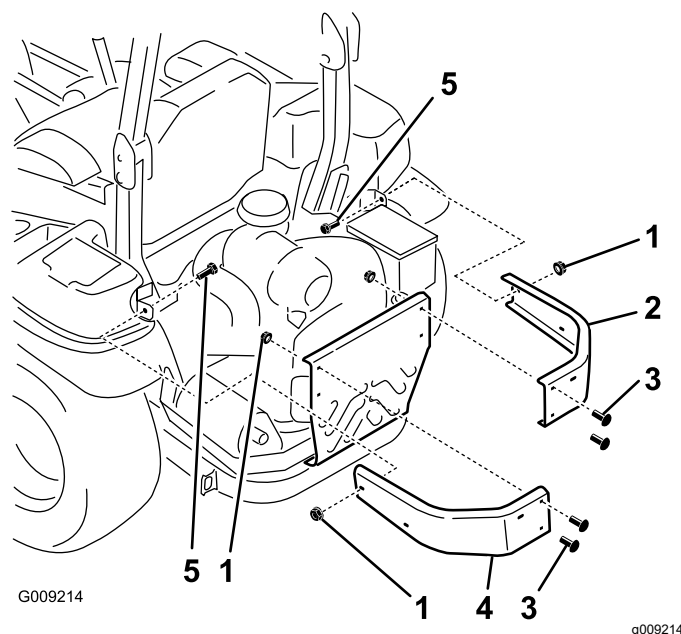

Figure 4
1. Remove the nuts and bolts holding the side bumpers to the machine (Figure 4).
2. Install the new left and right bumpers with 2 carriage bolts (3/8 x 1-1/4 inches), 4 previously removed carriage bolts, and 6 flange nuts (3/8 inch) as shown in Figure 4.